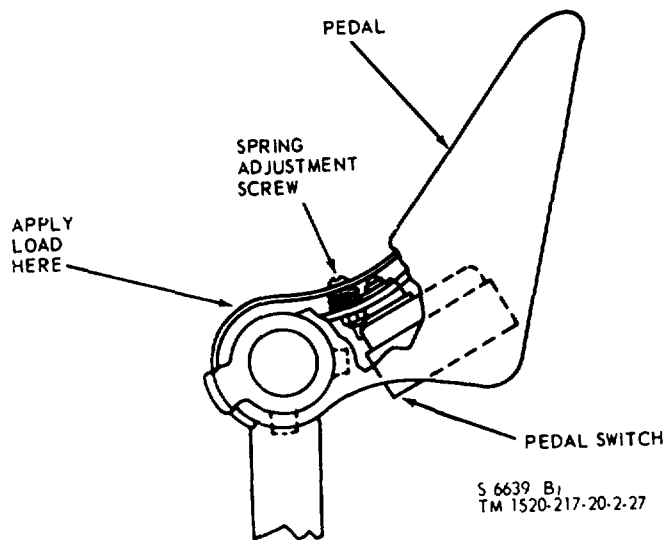

Figure 2-22. Automatic flight control system - yaw pedal switch adjustment.
a. Yaw Pedal Switches Adjustment (fig 2-22).
(1) Turn on AFCS by pressing AFCS 1 AFCS.2, and YAW buttons on AFCS control panel.
(2) Apply force between 1 and 5 pounds to pedal under test. Pedal switch shall actuate and null yaw control channel. If switch does not actuate, loosen pedal spring by turning adjustment screw counterclockwise.
(3) Slowly decrease force applied to pedal. Switch shall close when force drops below 1 pound. If switch does not close, tighten pedal spring by turning adjustment screw clockwise.